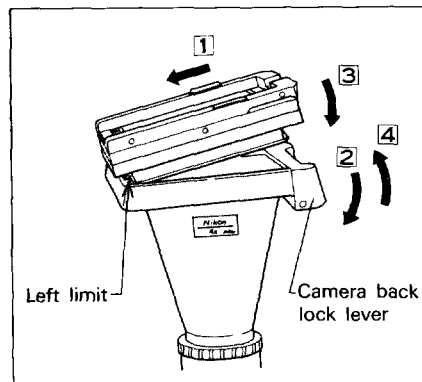

Fig. 22
- ① Tilt the 4" × 5" camera back and press it in towards the left side of the large format adapter as far as possible. (Fig. 22-①)
Note: Refer to Fig. 22 for the camera back's attaching direction.